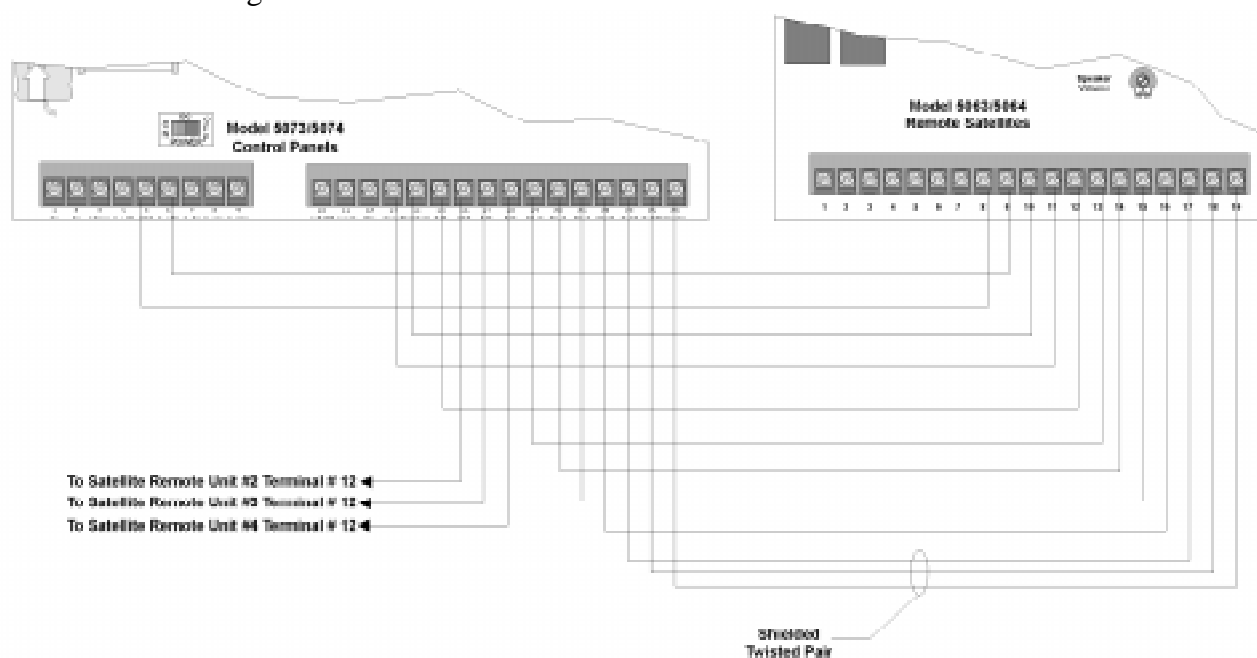

Figure 3-18: 5073 and 5074 Control Panel to Remote Satellite Wiring Diagram
2. Wire all connections from the 5073 or 5074 control panel to the remote satellite unit as shown in Figure 3-18 and Table 3-3.